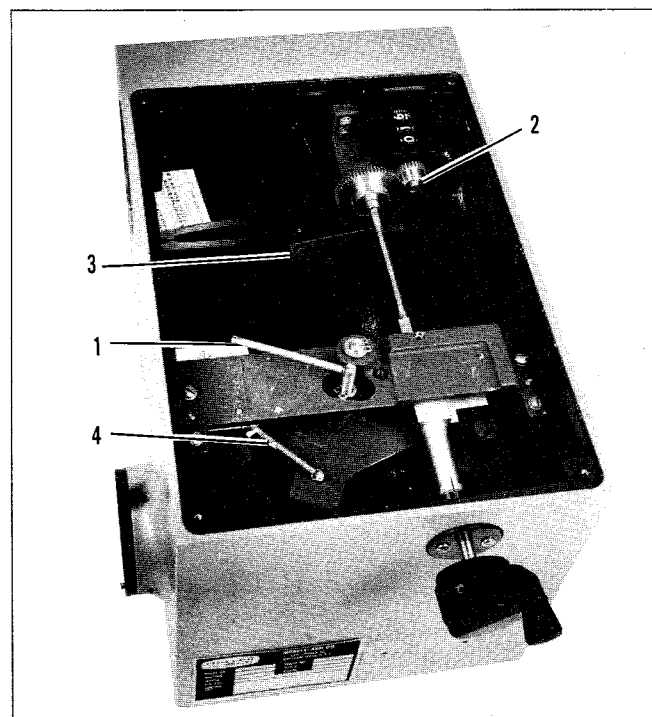

Figure 4
2-3-6 Rotate the wavelength drive until a bright green mercury line is seen visually through the exit slit (100 μ). Set the counter to 546 μ , by loosening the set screw on the small counter gear (2, Fig. 4).
2-3-12 Rotate the wavelength drive to approximately 300.0 mμ, and place a tungsten source at the entrance slit. A re-entry spectrum will appear at the center of the collimating mirror and may be observed at the exit slit. To eliminate the re-entry spectrum, rotate the baffle (3, Fig. 4) located below the wavelength counter, until the re-entry spectrum is visually eliminated from the C-2 collimating mirror. Do not mask out more light than is required to accomplish the above step.
2-6-2 Unscrew the grating selector arm (1, Fig. 4).
2-6-3 Disconnect spring (4, Fig. 4) from grating yoke.
2-6-6 Carefully replace grating yoke assembly within the monochromator and complete the assembly by replacing the spring (4, Fig. 4) and the selector arm (1, Fig. 4).
- Replace handle. Insert knurled screws into appropriate threaded holes (3, Fig. 4). Do not screw these all the way home.